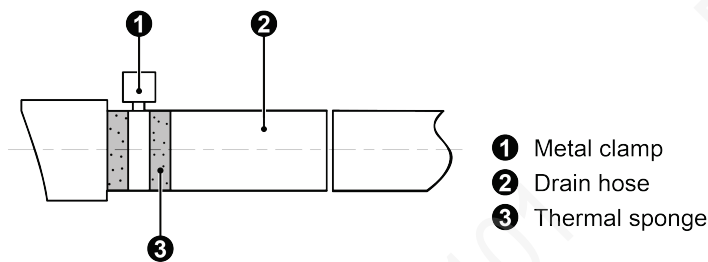
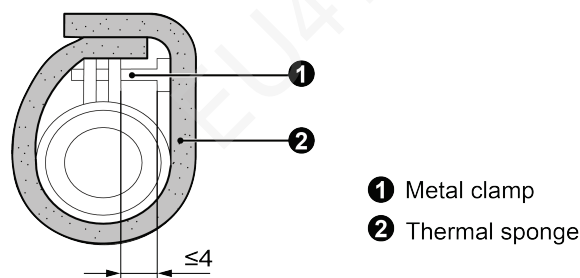

Fig 4.8
Fig 4.9
- (1) Insert the drain hose into the drain hole and tighten it with tapes, as shown in Fig 4.8
- (2) Tighten the pipe clamp, with the distance between screw nut and hose smaller than 4mm.
- ① metal clamp(accessory) ② drain hose(accessory) ③ Grey tape(accessory)
- (3) Use sealing plate to make the pipe clamp and hose insulated, as shown in Fig 4.9
- ① metal clamp(accessory) ② thermal sponge(accessory)